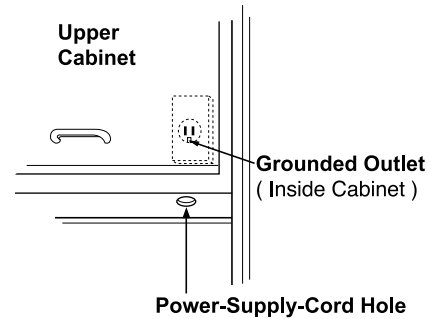

Figure 4
- BE SURE you have enough space. See Figure 4 below for minimum vertical and horizontal clearance.
1. Locate the grounded electric outlet for this oven in the cabinet above the oven, as shown in Figure 4.
2. You will cut the power-supply-cord hole (shown in Figure 4) later when you prepare the wall and upper cabinet in Step 4.